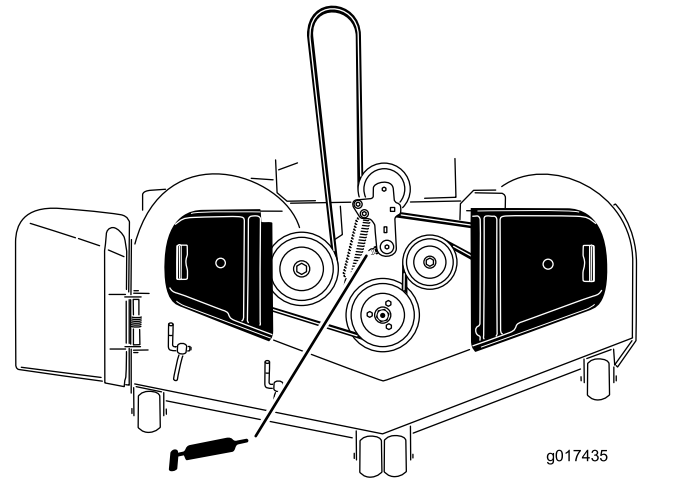

Figure 38
3. Grease the mower deck idler-pulley pivot until grease comes out of the bottom (Figure 38).